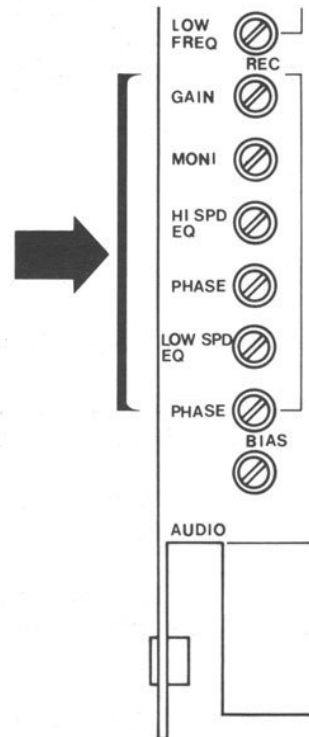

Figure 4-4. Record section
7. Observe the VU meters, which should indicate 0 VU. If any do not, adjust the RECORD GAIN control on the correspondingly numbered audio cards as required. (Refer to Figure 4-4.)